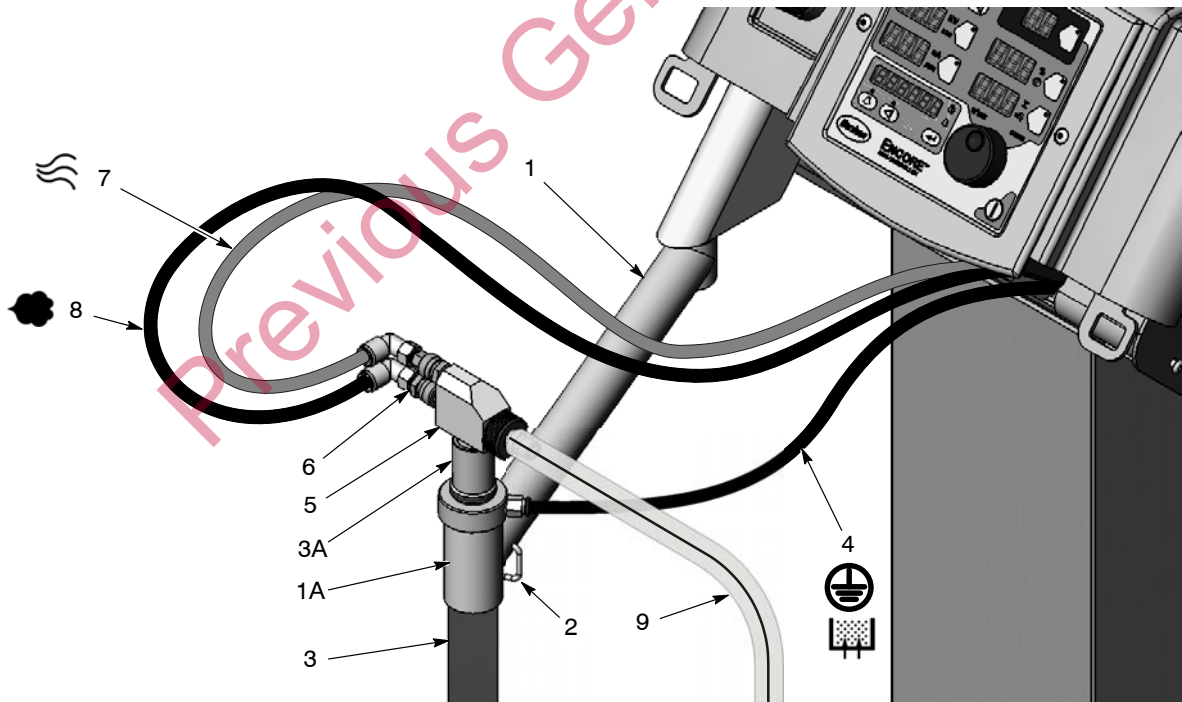

Figure 2-4 Pickup Tube and Pump Installation
1. See Figure 2-4. Unpack the pickup tube (3). Swing the arm (1) out, move the pickup tube catch (2) out of the way, then slide the pickup tube through the tube holder (1A).
2. Install the pump (5) into the pump adapter (3A) with a slight twisting motion.
3. Plug the 8-mm blue atomizing air tubing (7) into the top tube fitting on the pump, the 8-mm black flow-rate air tubing (8) into the bottom tube fitting on the pump, and the 6-mm black fluidizing air tubing (4) into the tube fitting on the pick-up tube.
4. Connect one end of the powder feed hose (9) to the pump.